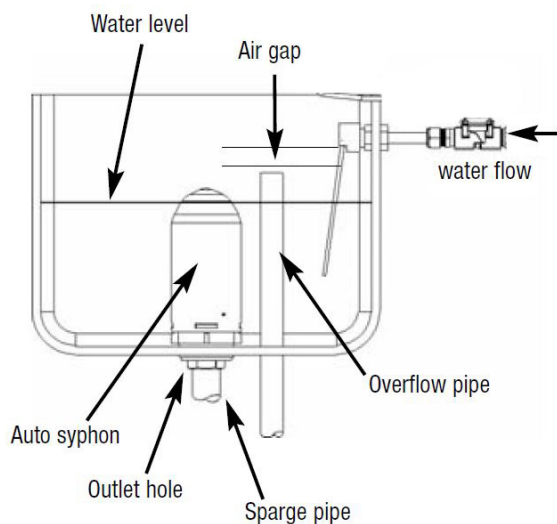

Fig 1. Cistern with autosyphon
- Cistern - ensure flush triggering level of autosyphon is below water inlet - Fig 1.
- an air-gap must be present between the cistern water level and the water inlet pipe to prevent back-flow - Fig 1.